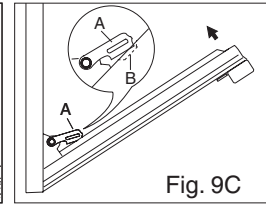
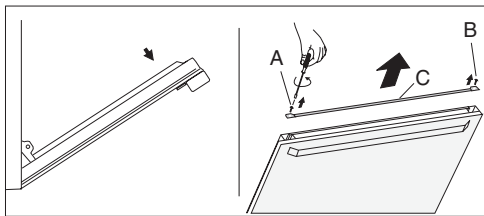
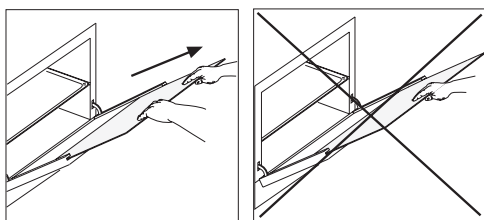

Fig. 9C
Fig. 9
Fig. 9A
- 3 shut the oven door slowly until it reaches hooks "A", making sure these are locked into slots "B" of the oven door, as shown in fig. 9C. Remove the glass Fig. 9A (only for models where present).
The interior glass of the oven door can be removed: with the door in a semi-open position, remove the screws A and B and the profile C as shown in fig. 9. Use both hands to remove the glass as shown in figures 9A.